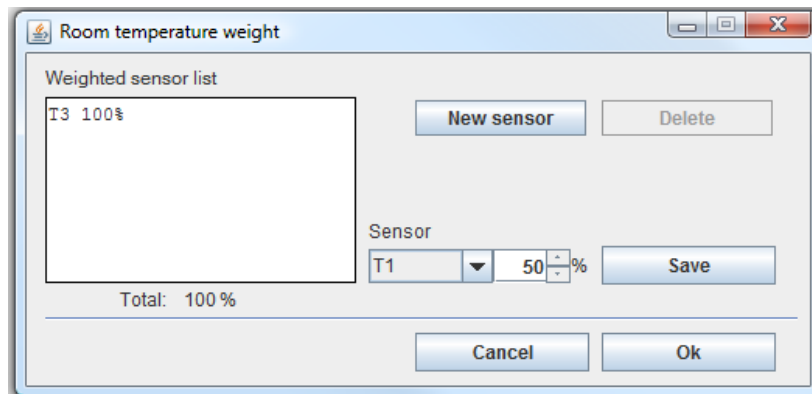

Figure 15 Room temperature weighting
**Room temperature:** A "Room temperature" button is located below the room compensation diagram. Clicking the button opens a new window: "Room temperature weighting", see Figure 15. The sensors to be used for "Room compensation", and their weighting, can be specified in this window. To add a new sensor, click "New sensor", select the required sensor in the drop-down list bottom center, select the per cent weight and click "Save".